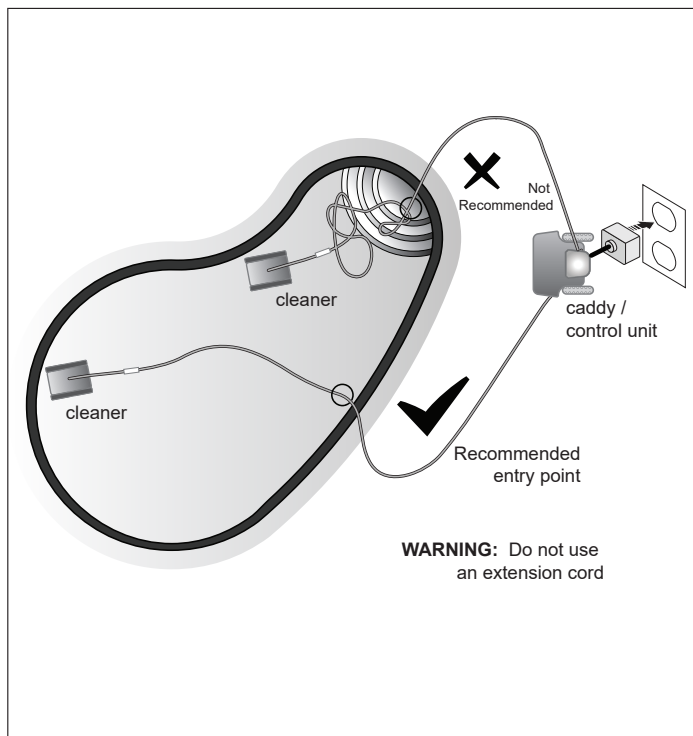

Figure 5. Pool Entry Point for Optimal Patterning
4. Place all of the floating cable in the water to allow free movement in your pool from the central point. Spread out the floating cable ensuring there are no kinks or coils in the cable (Figure 5).